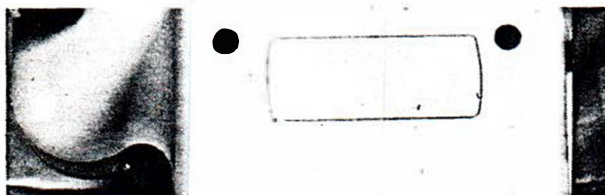

Figure 11. Motor Unit Assembly Removal (Bottom)
- A. Turn the assembled portions of the power unit over as shown in Figure 11.